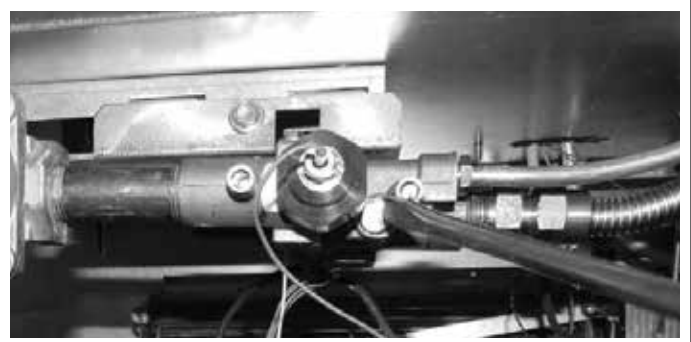

Figure 3
Step 3. Remove the low-rate set screw from the valve and replace with the orifice supplied in kit. See **Figure 3**.